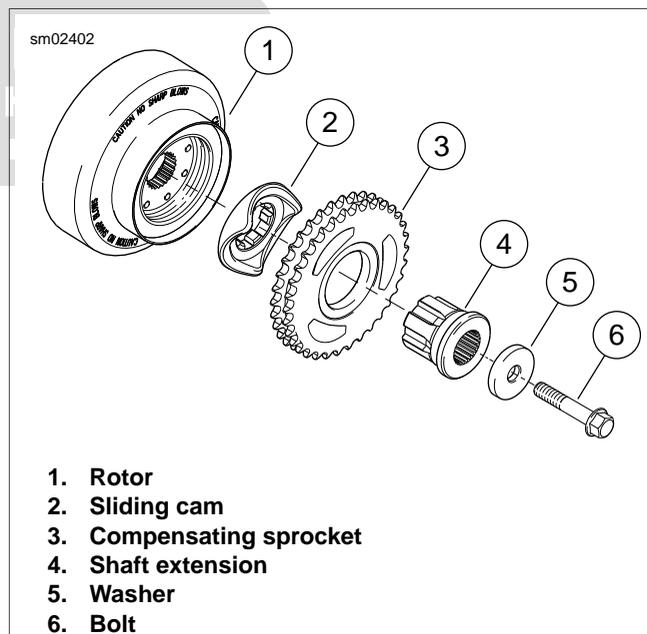

Figure 6-10. Compensating Sprocket
- See Figure 6-10. Apply a thin layer of primary chaincase oil, to the inner diameter of the compensating sprocket
- (3). and the splines of shaft extension (4). Assemble shaft extension, compensating sprocket and sliding cam (2). Place primary chain over compensating sprocket assembly.
- If reusing bolt (6), remove threadlocking material from bolt and engine sprocket shaft. Clean and prime threads of bolt and sprocket shaft. Apply two drops of LOCTITE THREADLOCKER 262 (red) to the threads of bolt. Install bolt and washer (5) hand tight.